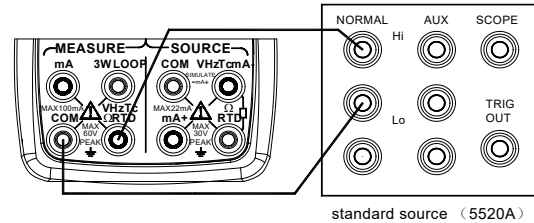

Figure 16 Calibrating DC voltage and frequency
**Step 3:** Connect the lead cables to the output terminals of the standard source as shown in Figure 16.